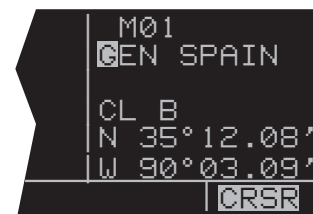

Figure 3-81
- Rotate the right outer knob to locate the cursor over the first character in the airport name (figure 3-81).